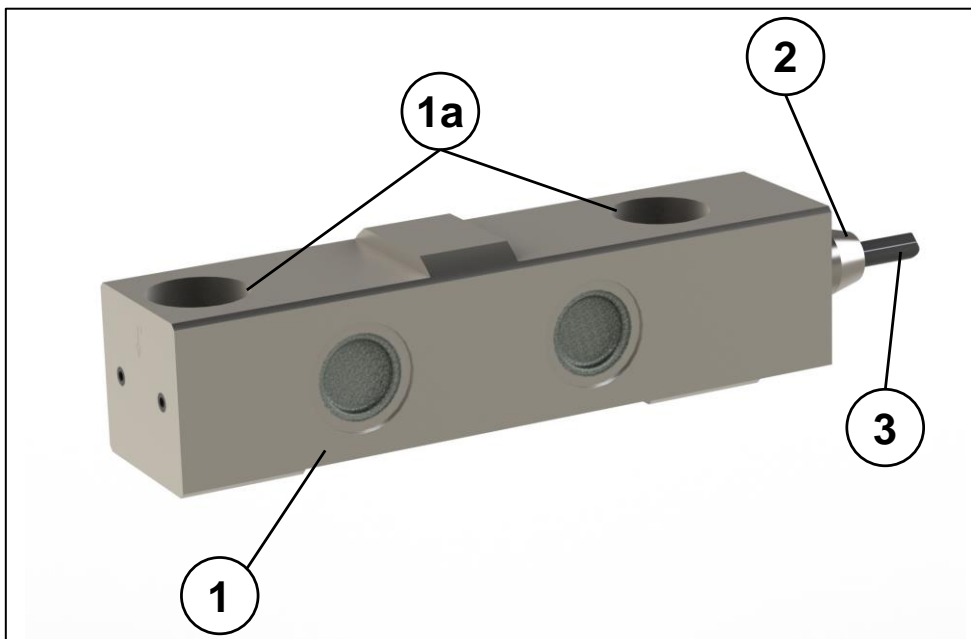

Figure 1: Normal force transducer
The BROSA Type 0250 normal force transducer is designed to detect the force in two-way shear connections in or on machines and devices of all kinds. Figure 1 shows the typical layout:
The normal force transducer (1) is mounted on the correspondingly shaped bearing surfaces (2), of the double shear connection and secured against unintended movement by means of the aforementioned features (see Figure 1). On the opposite surface of the normal force transducer, a defined force contact surface is located centrally. The force F applied there is transmitted to the measuring electronics by evaluation of the resulting deformation of the measuring body and output as an electrical signal.